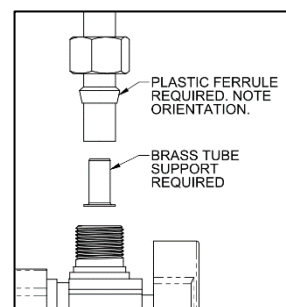

Figure 2: Supply Valve Connection
4. With the lower unit laying on its back, remove the (4) screws holding the skirt to the bottom of the frame. Then remove the skirt by sliding the skirt away.
6. Secure both the lower right and lower left ends of the lower unit to the wall using at least (2) 1/4" or 3/8" structural screws. These screws should go through the holes which are approximately 5" from the bottom of the lower unit. Washers may be required.
- b. Install the compression nut (included with your supply valve), followed by the plastic ferrule (supplied), and the brass tube support (supplied) onto the inlet line. Note the correct orientation of the plastic ferrule, as shown in Figure 2. Do not use the brass ferrule included with your supply valve.